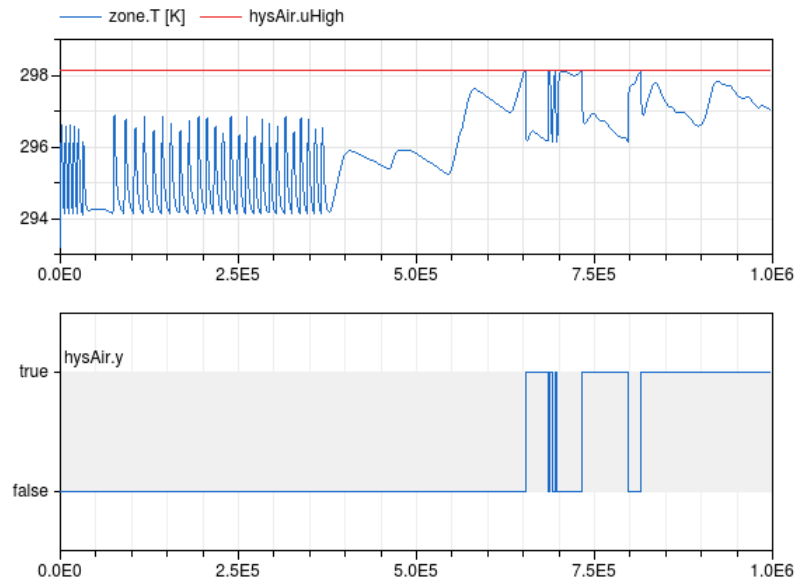

Figure 6: Air temperature, hysteresis controller upper bound and hysteresis output signal as function of time in seconds
**Reference result** Figure 6 shows the result.